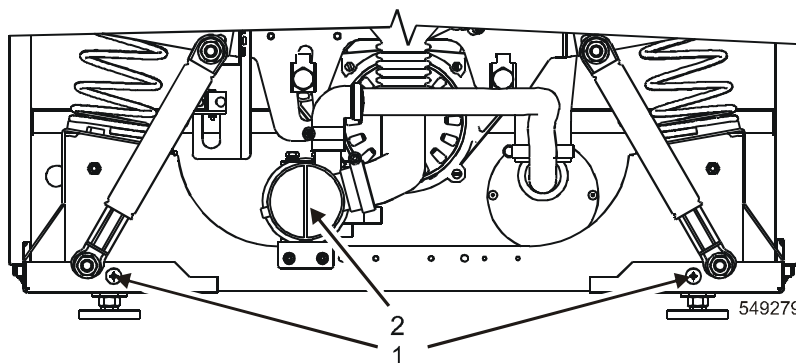

Figure 32
Remove the front panel of the cabinet by unlocking the 2 bolts, Figure 32, pos.1.